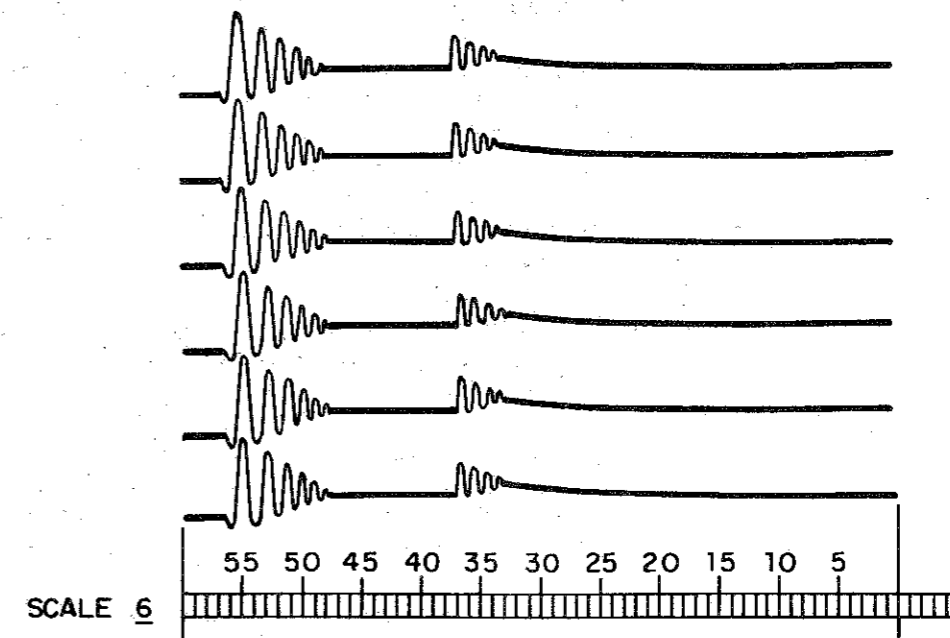
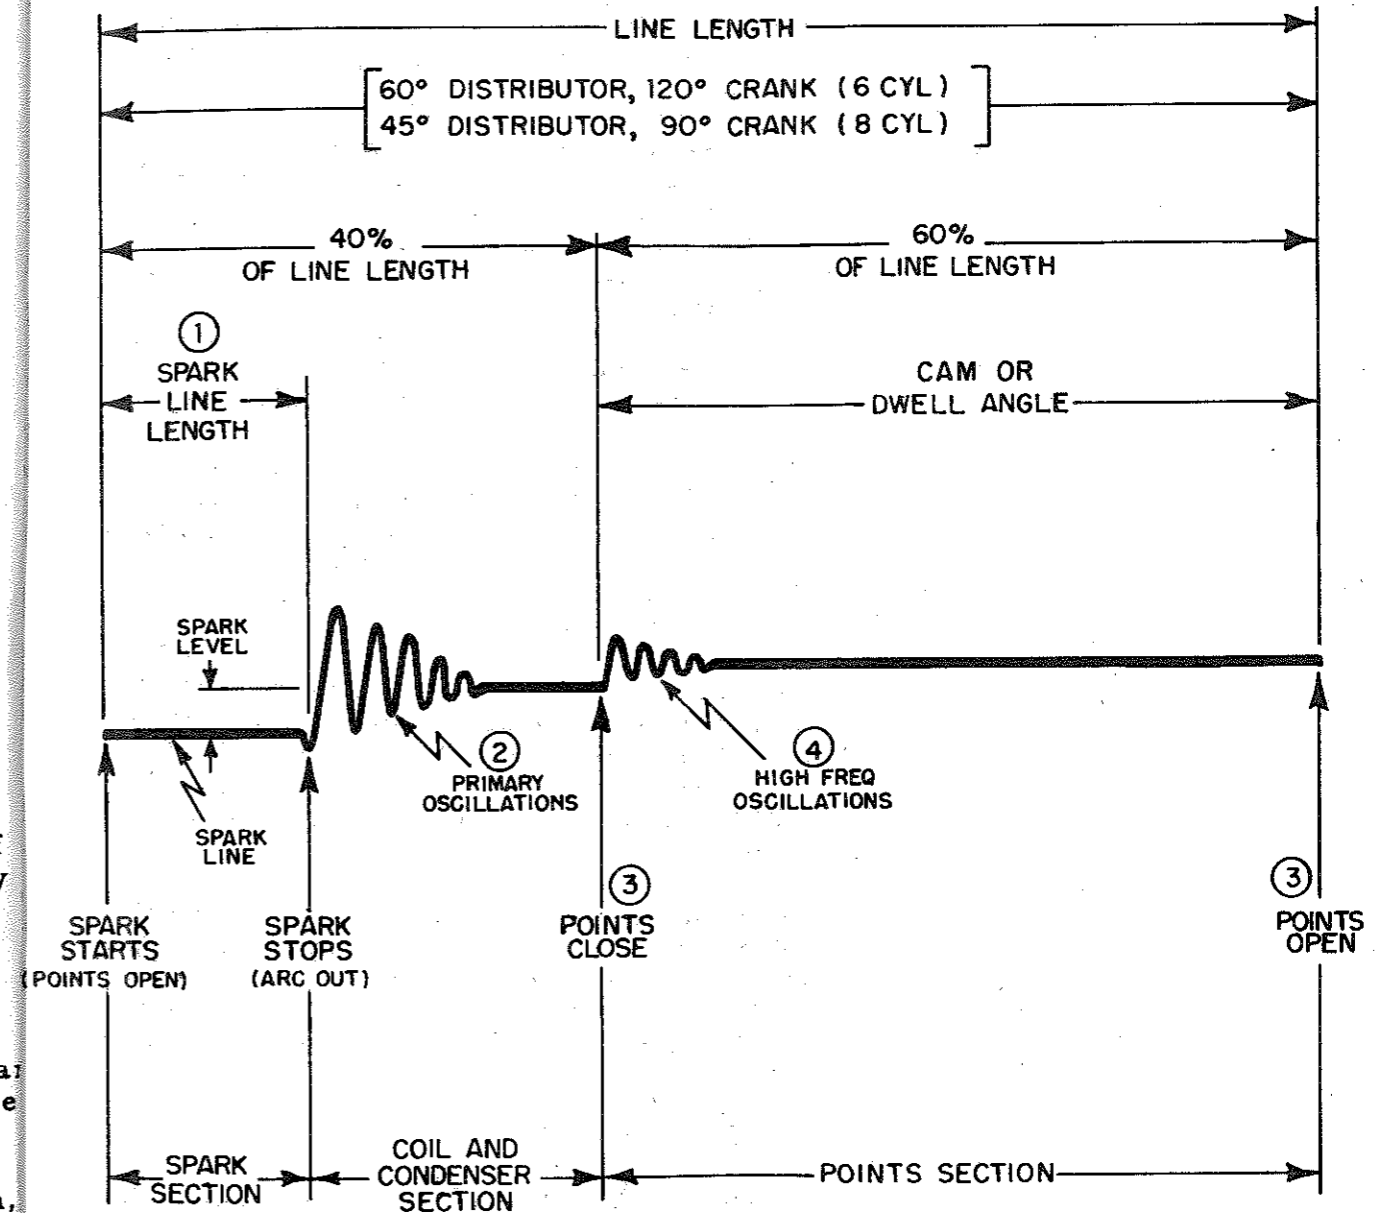

FIGURE 4. NORMAL SIX-CYLINDER ENGINE PATTERN
FIGURE 6. IDENTIFICATION OF SIGNAL DEFLECTIONS
With the Ignition Scope set up and connected as described in Sections 2.01 and 2.02, the patterns should appear as shown in Figures 4 and 5. These are to be considered as normal patterns for a six- or eight-cylinder engine. Note that in the Type 902 Ignition Scope, some sloping of the lines down to the right is normal and to be expected.
To understand what the signal pattern tells about the condition of the engine under test, compare the pattern obtained on the Ignition-Scope with the normal pattern of Figure 4 or 5. The various portions of the signal deflections are identified in Figure 6. The numbers of the following paragraphs correspond to the circled numbers in the diagram of Figure 6.
- B. From left to right, each section may be identified with the components of the ignition system of the engine. These are shown in Figure 6 as the spark, coil and condenser, and points sections of the cylinder line.